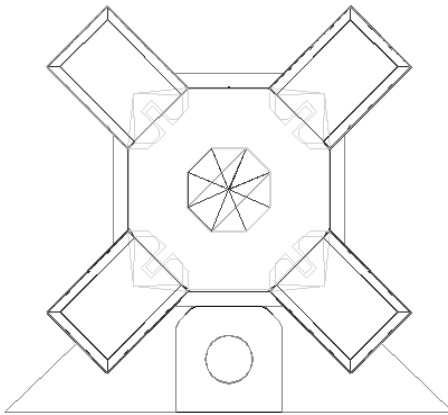
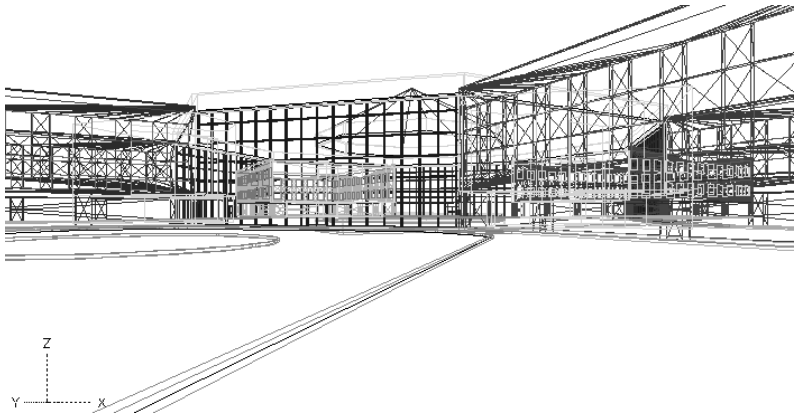

**Figure 21-1:** An office building in plan view.
**Figure 21-2:** The same office building viewed from the front.
**T**he topics in the previous chapters have worked with two axes, X and Y. In this chapter, I add the Z axis. When you have a drawing with 3D objects, you can view it from any angle. The view that you've been using in 2D drawings is like looking at a house from the top, which you could call a plan view or a floor plan. From this view, even a 3D drawing looks two-dimensional. But when you look at a 3D drawing from an angle, you can see that there's more to it than meets the eye. Figure 21-1 shows the plan view of an office building. Figure 21-2 shows the same drawing viewed in a perspective view from the front.